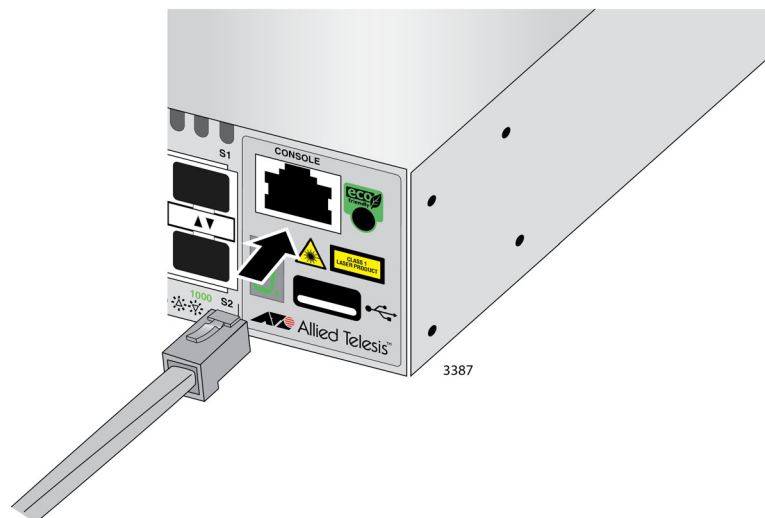

Figure 52. Connecting the Management Cable to the Console Port
1. Connect the RJ-45 connector on the management cable to the Console port on the front panel of the switch, as shown in Figure 52 on page 105.